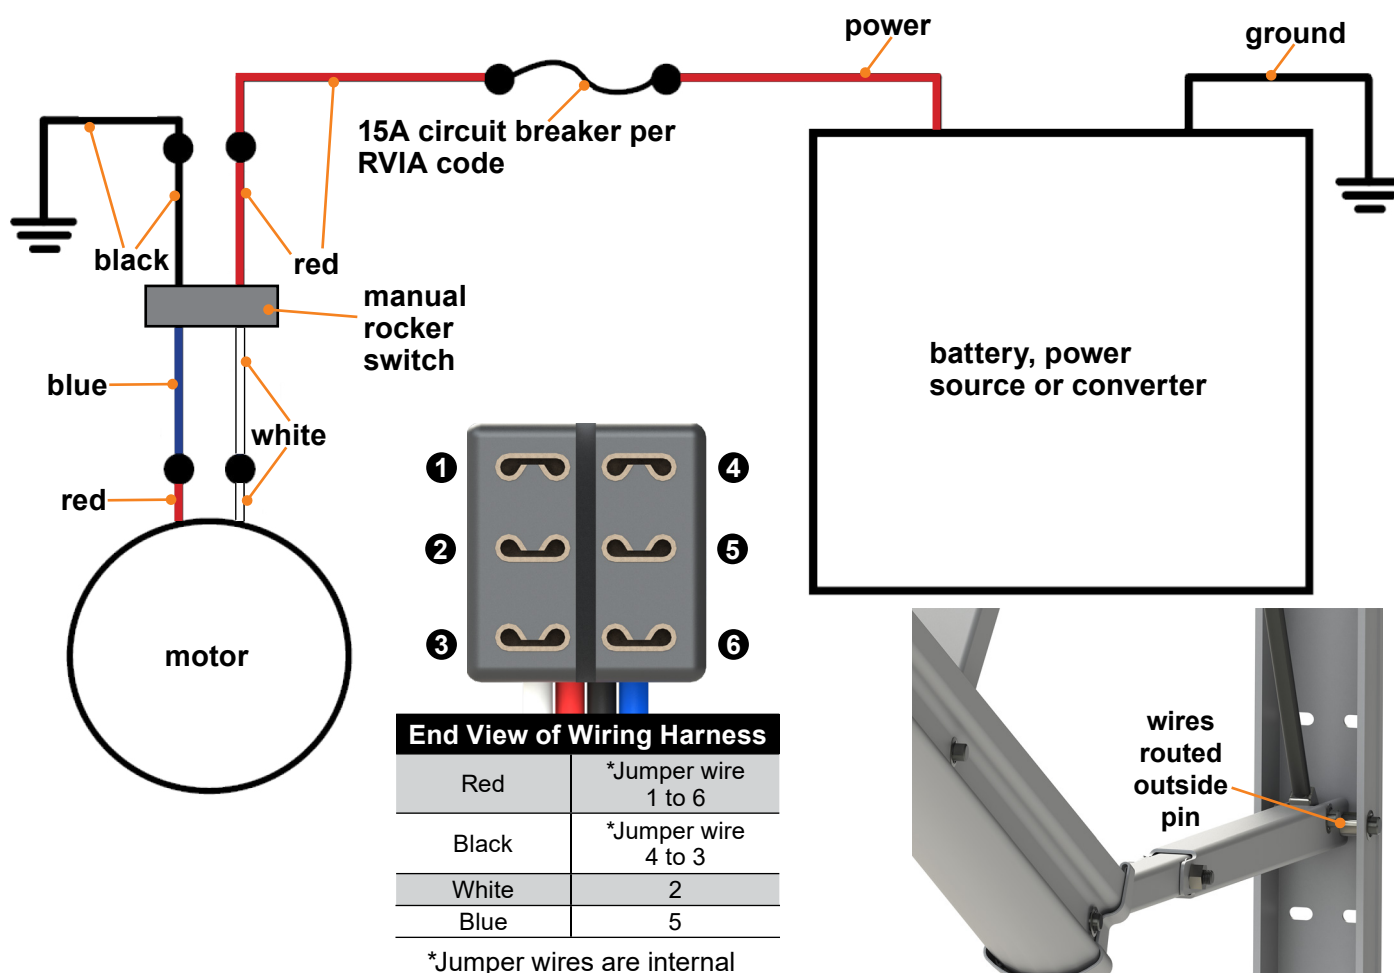

Fig.9
2. Connect wiring from the unit to the switch and the awning drive head per the wiring diagram (Fig.9).